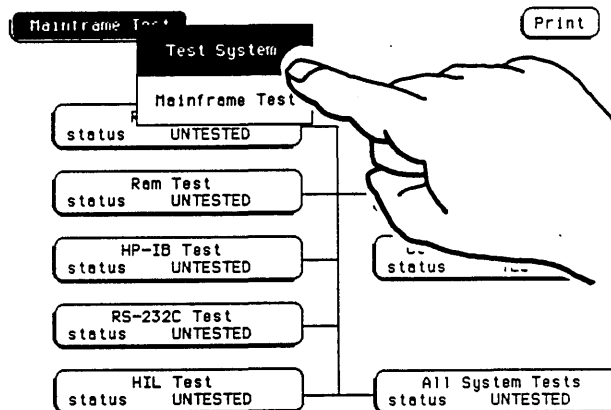

Figure 4-8. Exiting Mainframe Test System
- To exit the Mainframe Test system and to reload the mainframe operating system, touch the **Mainframe Test** field and the **Test System** field from the pop-up menu. The Test System configuration will be displayed (see figure 4-8).